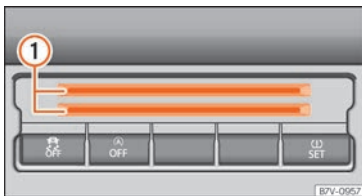

Fig. 162 Lower part of the centre console: card compartment.
To the bottom of the centre console there is a compartment »» **Fig. 162** ① for coins, cards, car park tickets and similar items.